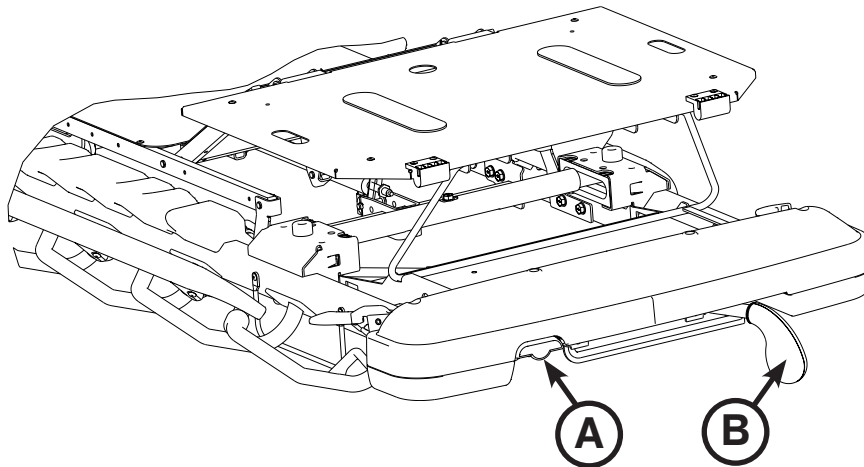

Figure 25: Gatch - Foot End
To raise the gatch, pump handle (B) repeatedly to the left until the gatch has reached the desired height (5.5"/14 cm minimum) as shown in Figure 25.
To lower the gatch, pull handle (A) until the gatch has reached the desired height (5.5"/14 cm minimum) as shown in Figure 25.